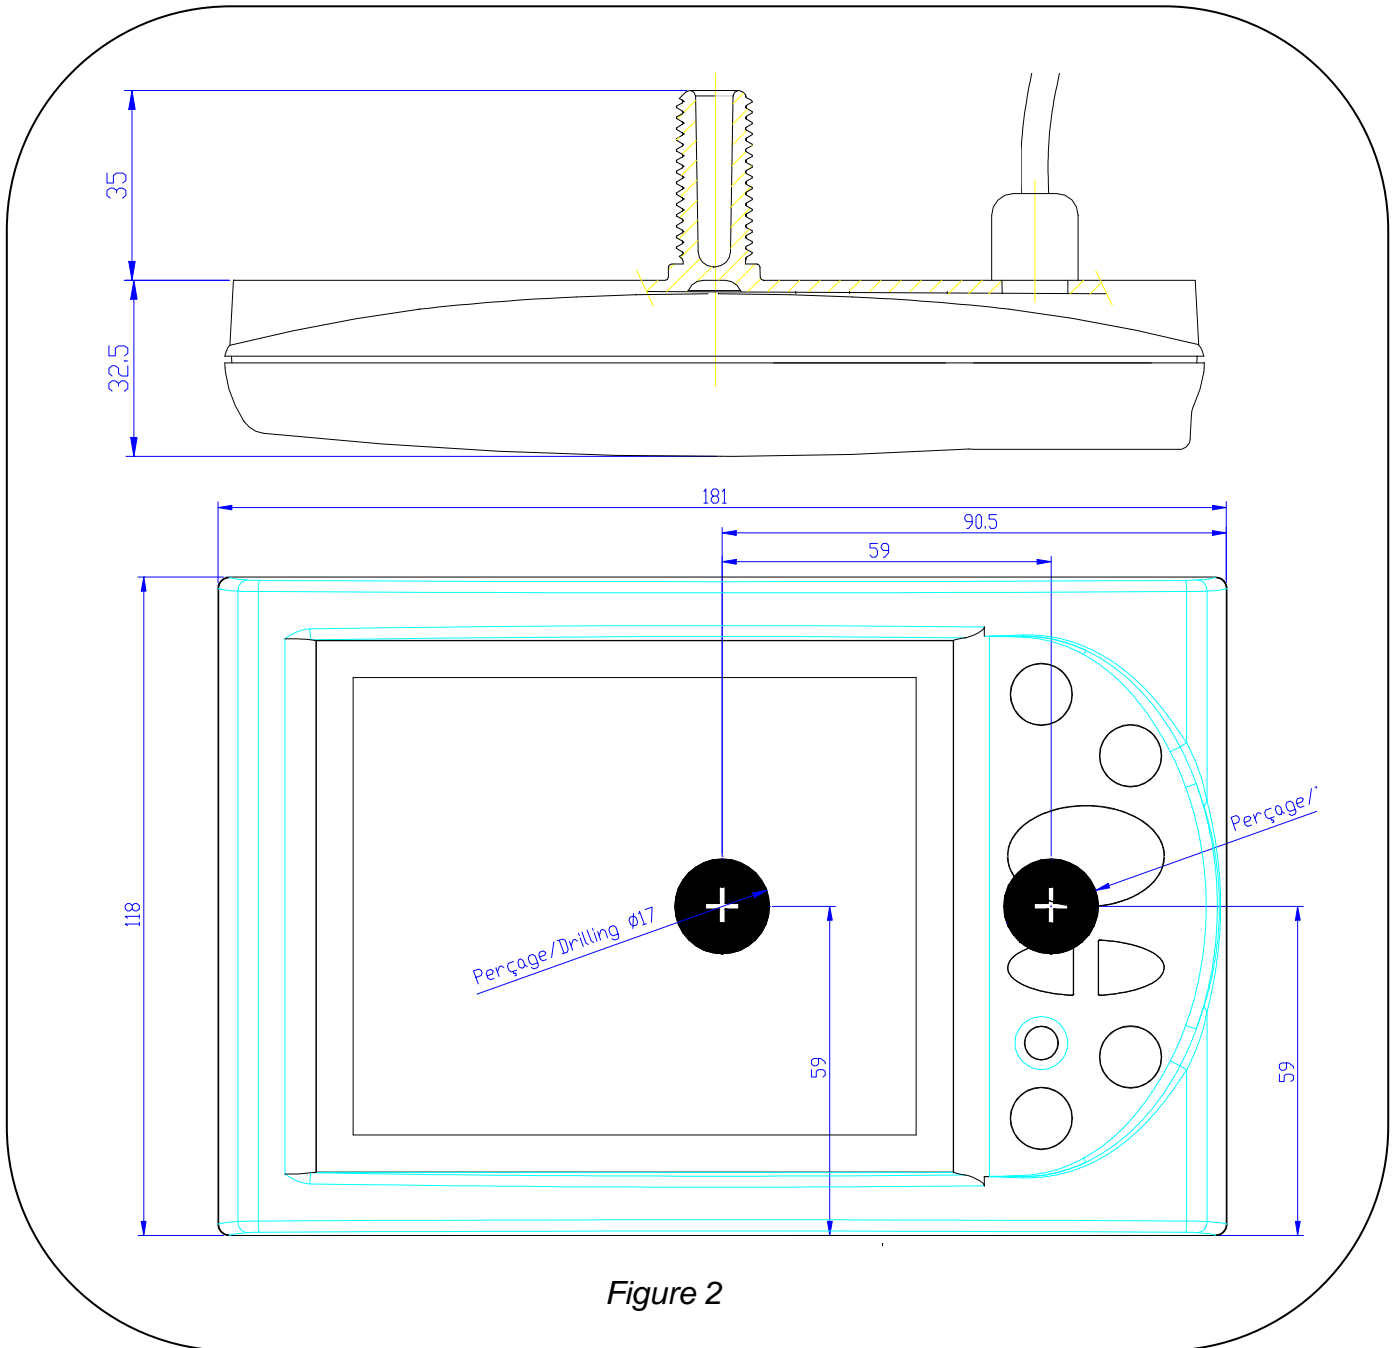

Figure 2
- Perform the $\varnothing 17$ drillings according to the drawing of figure 2,